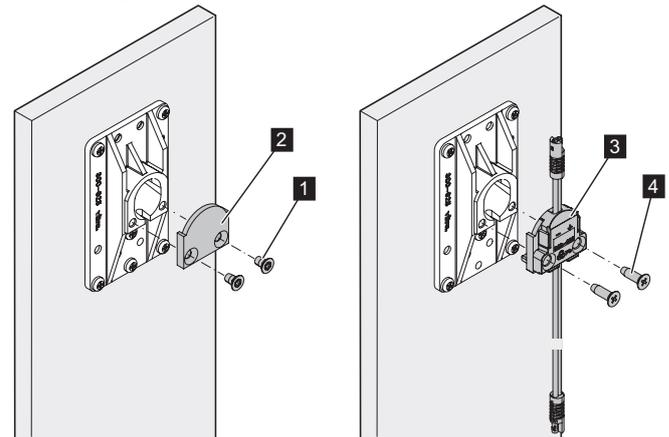

Fig. 13: Unscrewing cover panel
1. Loosen both screws (Fig. 13/1) with a Torx screwdriver. The screws and cover panel (Fig. 13/2) are no longer required and can be disposed of.
2. Fix the electrical connection set (Fig. 13/3) with the supplied countersunk screws (Fig. 13/4) to the holder set.